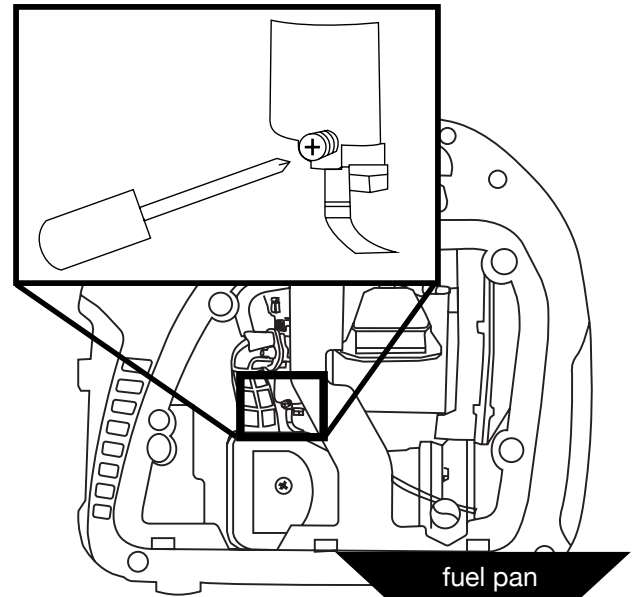

Figure 18: Loosen float bowl screw
3. Loosen the float bowl drain screw (see Figure 18) until fuel is seen draining from the float bowl.